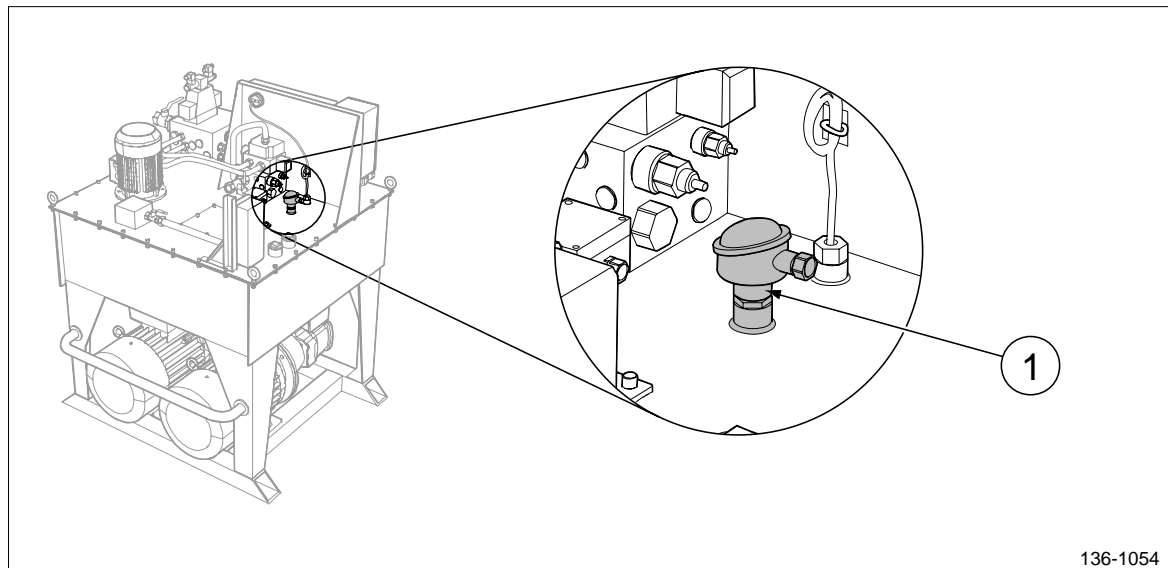

Figure 1 Temperature sensor on the hydraulic power pack.
3. Locate the temperature sensor TT1 (see figure 1) on the back of the hydraulic power pack.